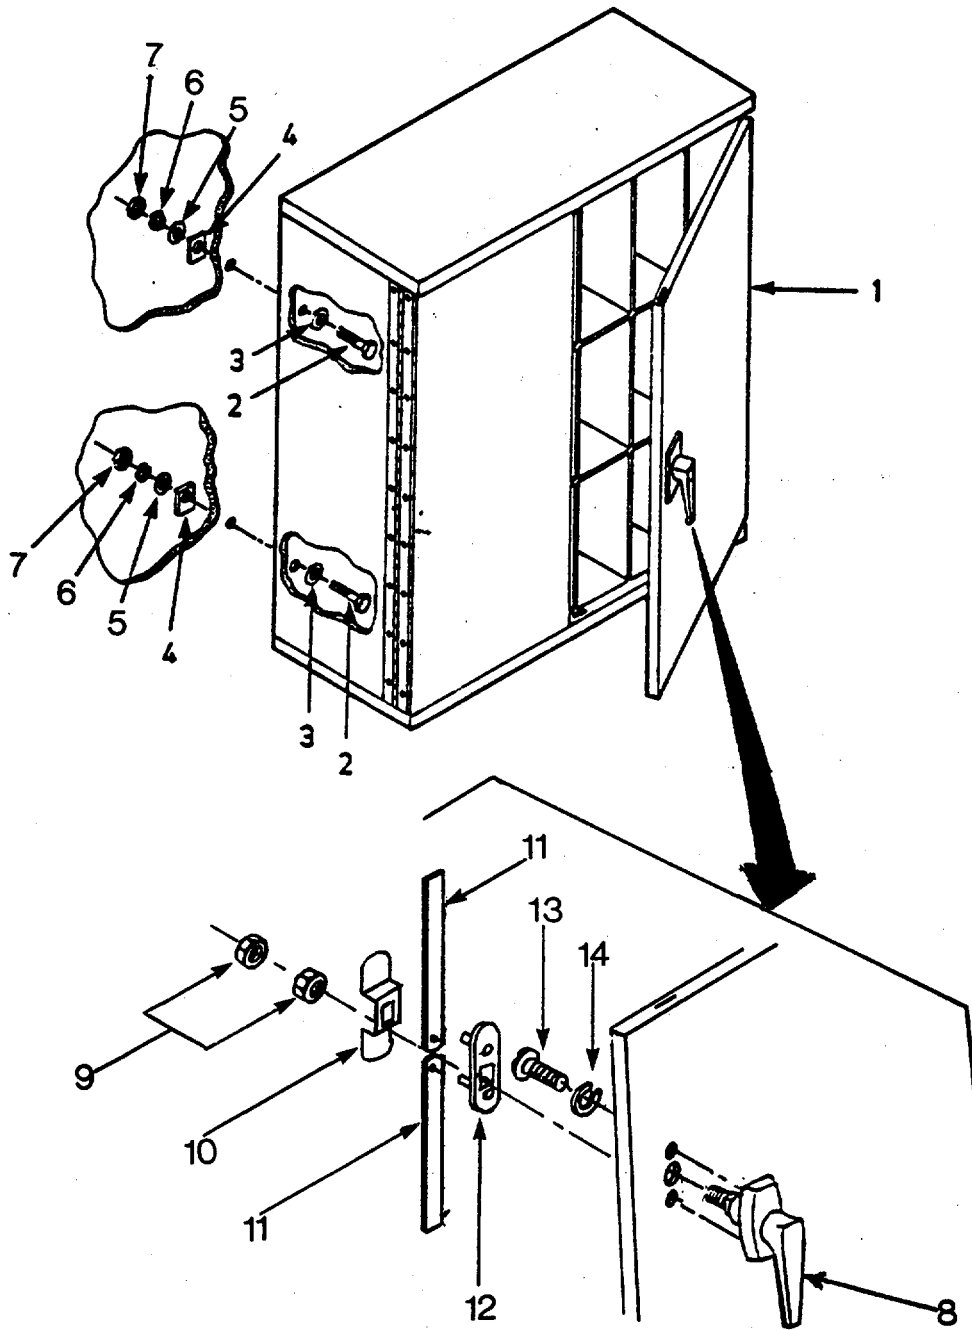

Figure 4-7. Artist Supply Cabinet
a. Inspect. (See Figure 4-7.)
- (1) Check editorial room, curbside supply cabinet for security of mounting. Check for dents and structural damage. Inspect welds for breaks or separation.
- (2) Check supply cabinet handles for security of installation and damage.
- (3) Check latching mechanism for proper operation and security.
b. Replace. (See Figure 4-7.)
- (1) Remove contents from supply cabinet shelves.
- (2) Remove bolts (2), flat washers (3), backing plates (4), lockwashers (5), nuts (6), and cabinet (1).
- (3) Install supply cabinet (1). Secure with bolts (2), flat washers (3), backing plates (4), flat washers (5), lockwashers (6), and nuts (7). Seal backing plates (4) to shelter wall with RTV (Appendix E, item 3).
c. Repair. (See Figure 4-7.)
- (1) Replace door handle assembly.
- (a) Remove door handle assembly (8) by removing nuts (9) and retainer plate (10).
- (b) Remove rods (11) and backing plate (12).
- (c) Remove bolts (13), star washers (14), and door handle assembly (8).
- (d) Install replacement door handle assembly (8) and secure with star washers (14), and bolts (13).
- (e) Install backing plate (12), rods (11), retainer plate (10), and secure with nuts (9).
- (2) Remove minor dents and bends from supply cabinet (1) body.
- (3) Remove minor dents and bends from supply cabinet (1) shelf.
- (4) Repair welds as needed.